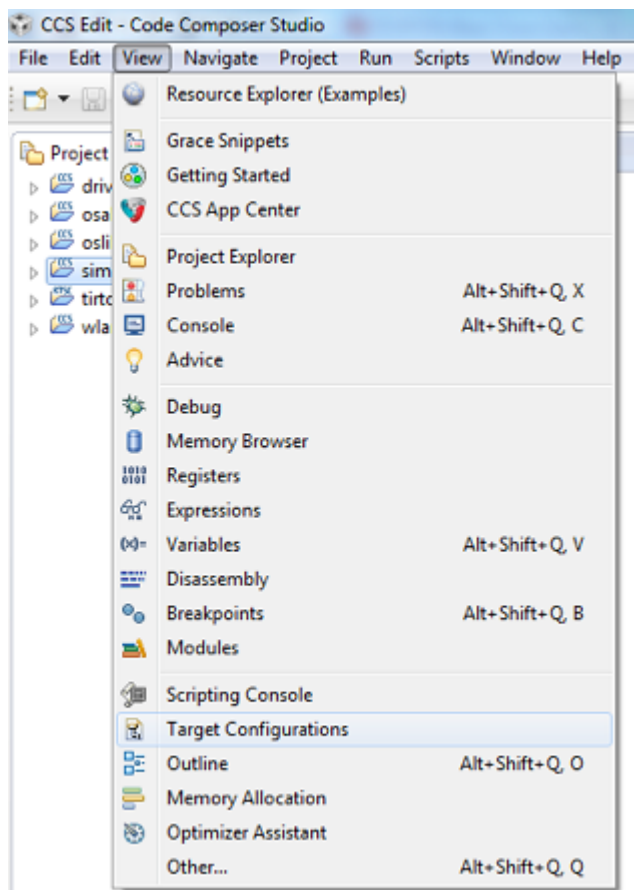
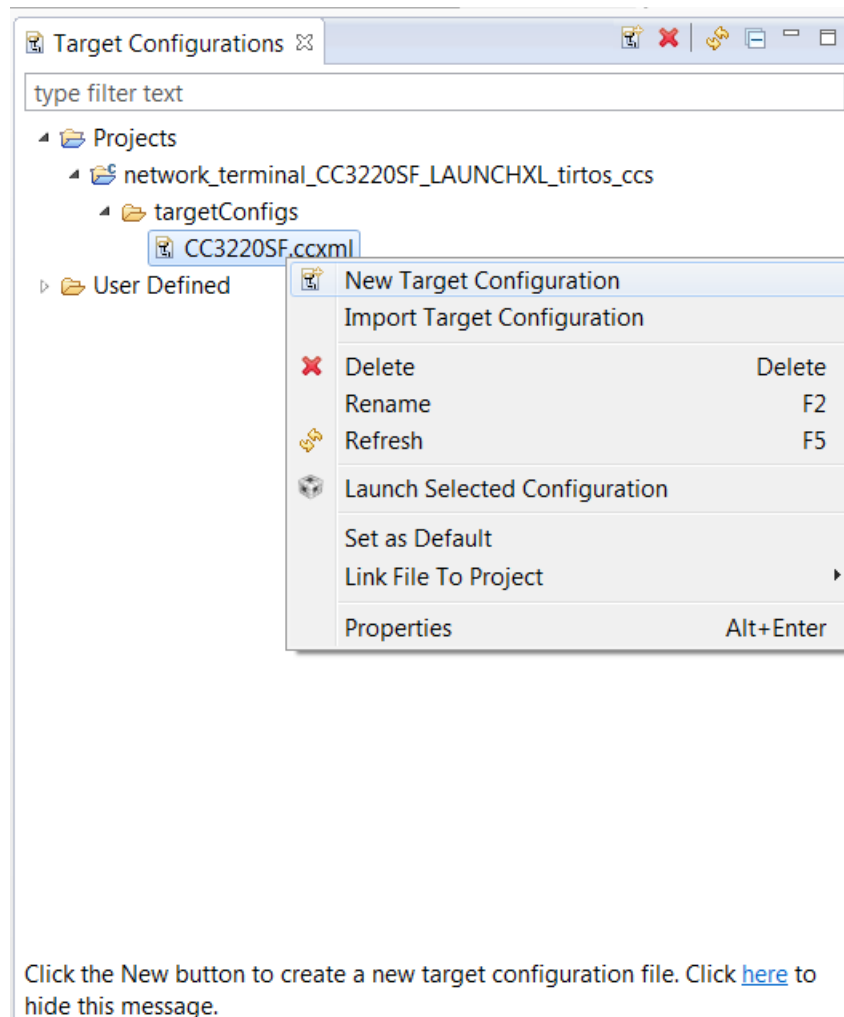

Figure 3-3. View Target Configurations
Figure 3-4. Select Target Configuration
2. By default, the target configuration is defined by the application project imported in Section 2.1.1. Navigate to View → Target Configurations, as shown in Figure 3-3, to verify that the correct configuration is selected (see Figure 3-4).
3. Set this new configuration as the default by right-clicking on the filename and selecting Set as Default (see Figure 3-4).